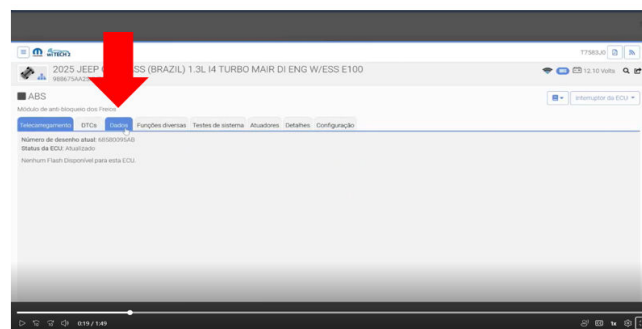

Fig. 2
4. Select in the DATA function Fig. 2.